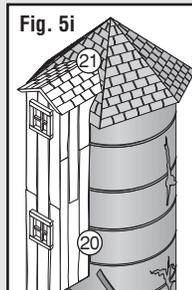

Fig. 5i
- Attach Chute (20) and Chute Roof (21) (Fig. 5i).